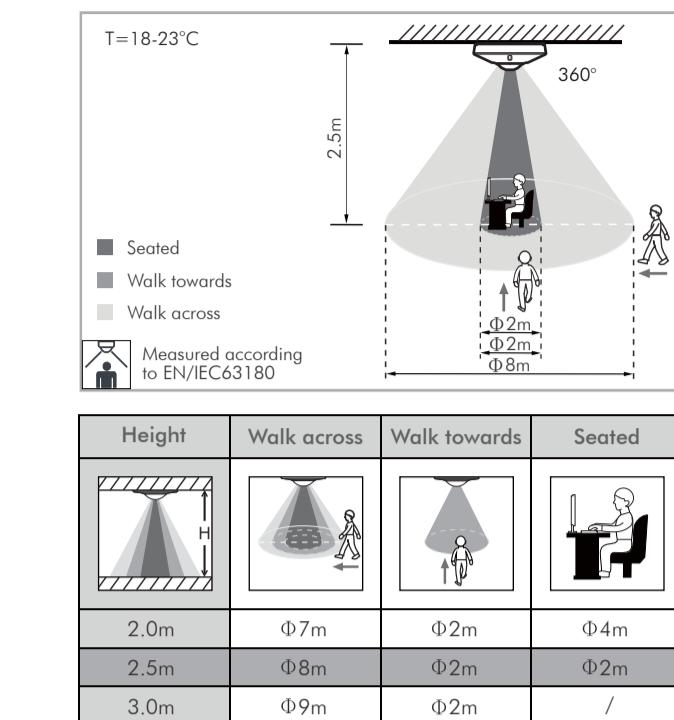

FIG.2
3.1.1 KDP-3 S can be installed at the height of 2 - 3m, it's recommended to install it at the height of 2.5m to gain the optimal detection pattern, the detection range can reach up to the diameter of 8m and 360° detection angle (See FIG.2).